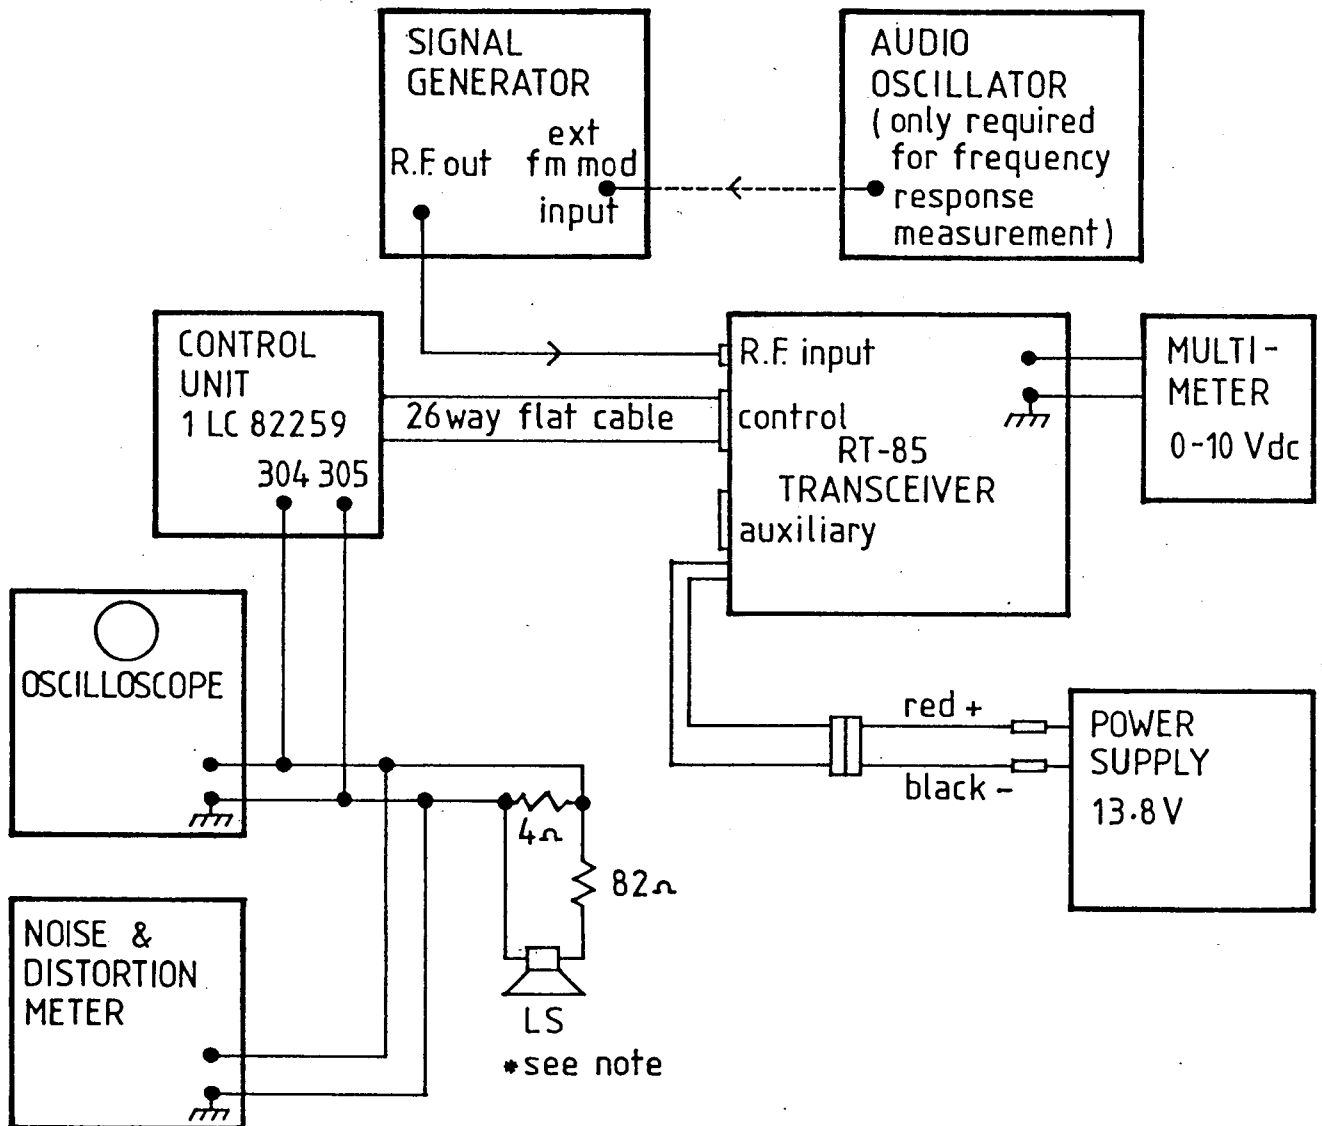

Fig. D-1 Synthesizer/Receiver Alignment Set-Up
2. Set up test equipment as shown in Fig. D-1 below.
1. Set up as in Fig. D-1. (page D.2 - 1).
1. Set up as in Fig. D-1 (page D.2 - 1).
1. Connect the unit under test as shown in Fig. D-1 (page D.2 - 1). Connect a dc ammeter in series with the power supply.